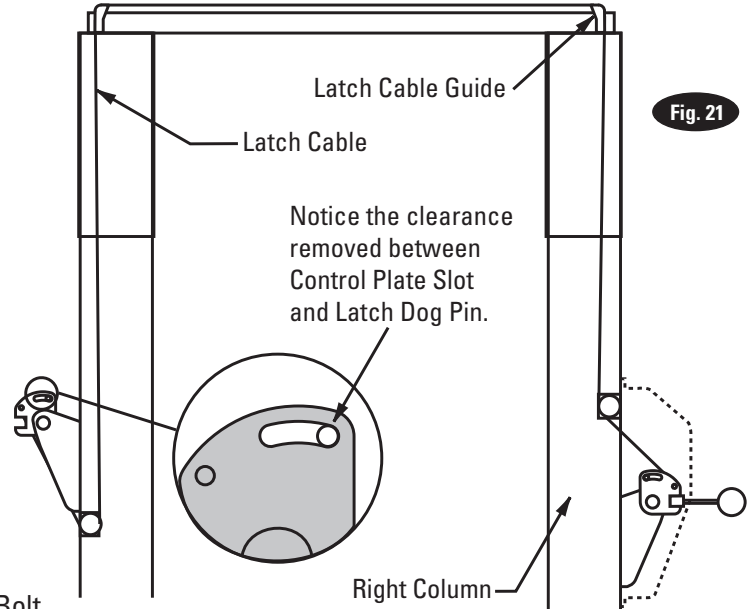
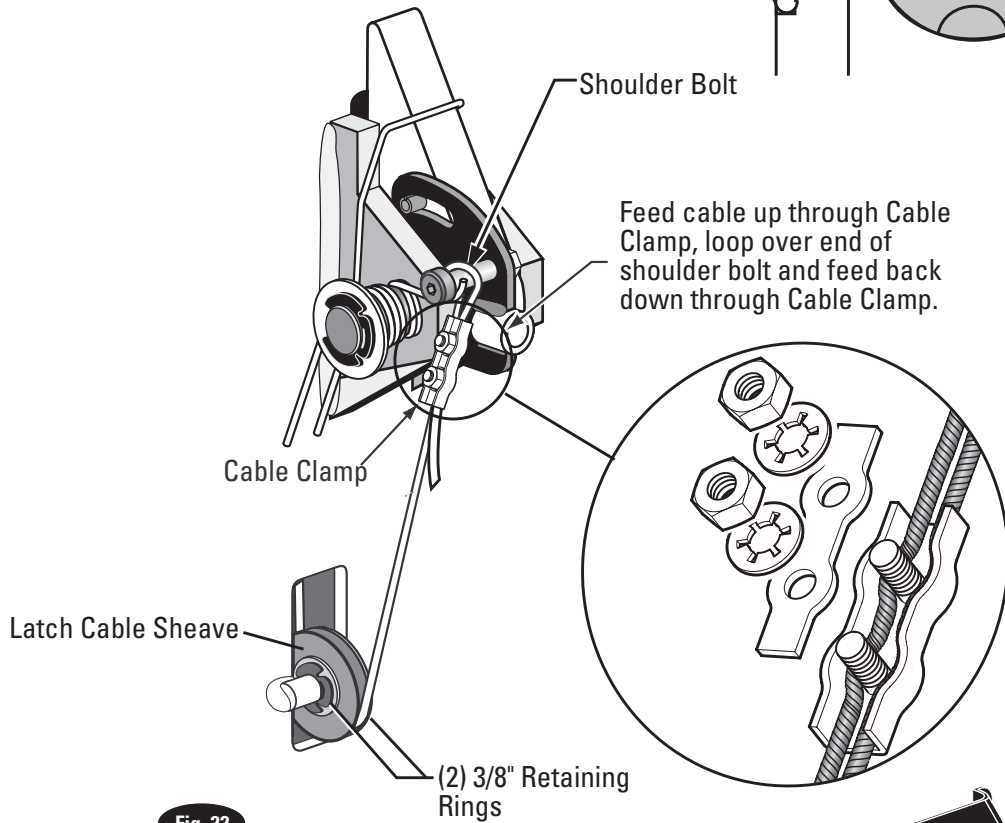

Fig. 21
Fig. 22
- Route cable up inside column and through the latch cable guide, Fig. 19a & Fig. 21.
- Continue routing cable to the left column latch cable guide, Fig. 19a & Fig. 21, routing the cable through the left column latch cable guide, Fig. 19a.
- Bring the cable down inside the left column and feed the end of the cable through the lower latch cable sheave slot so that the cable is now back outside the column, Fig. 22.
- Route cable under the bottom side of the latch cable sheave, Fig. 22.
- Insert cable in cable clamp along one side, loop around shoulder screw and back down, inserting cable along other side of cable clamp, Fig. 22. Place top back on clamp, barely tightening.
- Next, pull the control plate down, Fig. 21 & Fig. 22, to eliminate any clearance between the control plate slot and the latch dog pin, Fig. 21.